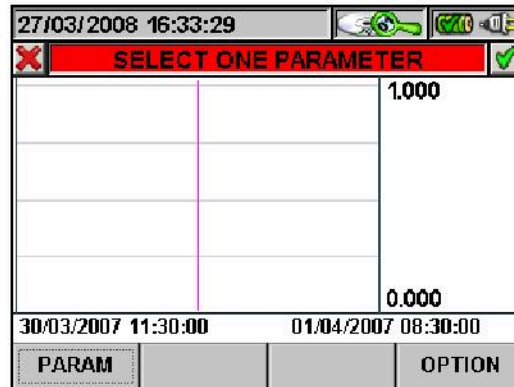

Fig. 118: Selecting a parameter
- The **ESC** key (or smart icon ) to exit the function and go back to the "Selecting a parameter" page (Fig. 118).
3. Press the **ESC** key (or the smart icon ) to exit the function and go back to the "Selecting a parameter" page (Fig. 118).